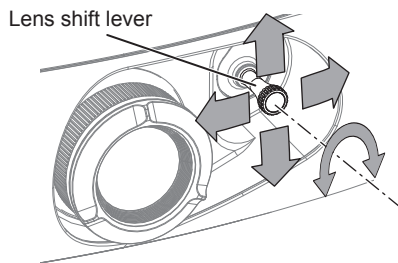

Fig. 1
- 3) **Adjust the lens shift. (Fig. 1)**